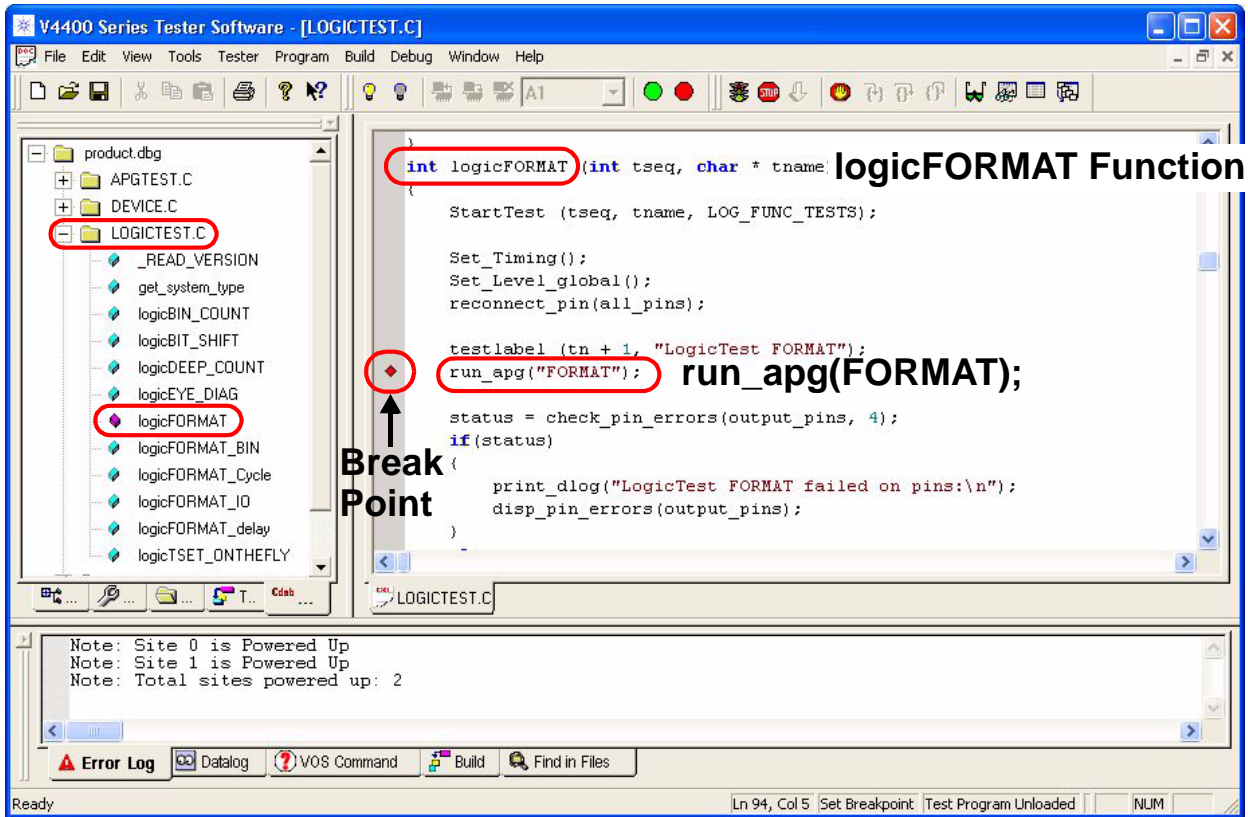

Figure 6-57. C Debugger Displaying Break Point
- 7 Navigating to and double-clicking the `LOGICTEST.C > logicFORMAT` function displays it in a window in the Tool Document Window (similar to Figure 6-57).
- 8 Before using the Waveform Tool, the test program has to be loaded and the break point needs to be set right before the `run_apg` command. Positioning the cursor in the source line shown in Figure 6-57 and selecting the `Debug > Break` command, the `F9` key, or the Break Point button in the toolbar inserts a break point that displays as a red diamond tag in the gray margin on the left side of the source code. Note that the Status bar at the bottom of the window displays the line number (Ln) and column (Col) the cursor is active.
After configuring the waveform setup, the C Debugger is used to run the test program to the break point that was set (Figure 6-57 on page 268).
- 1 Selecting the `LOGICTEST.C` document tab displays the C Debugger document window with its context-sensitive menu bar and toolbar (Figure 6-57 on page 268).